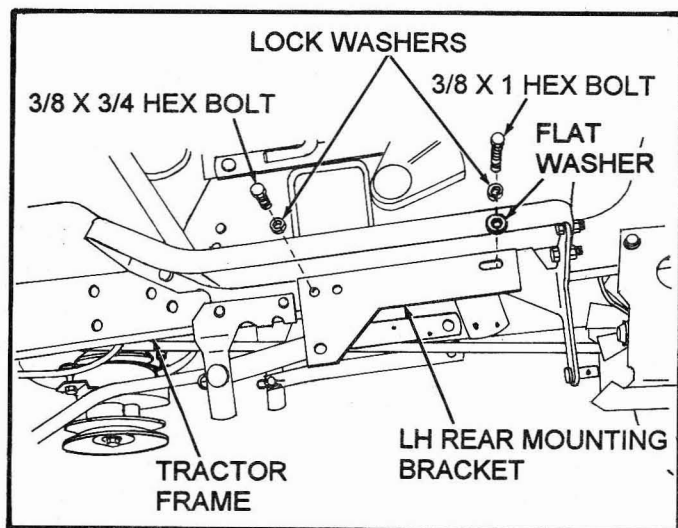

FIG. 2
- Remove two bolts from tractor frame at left side. (See Fig. 2)